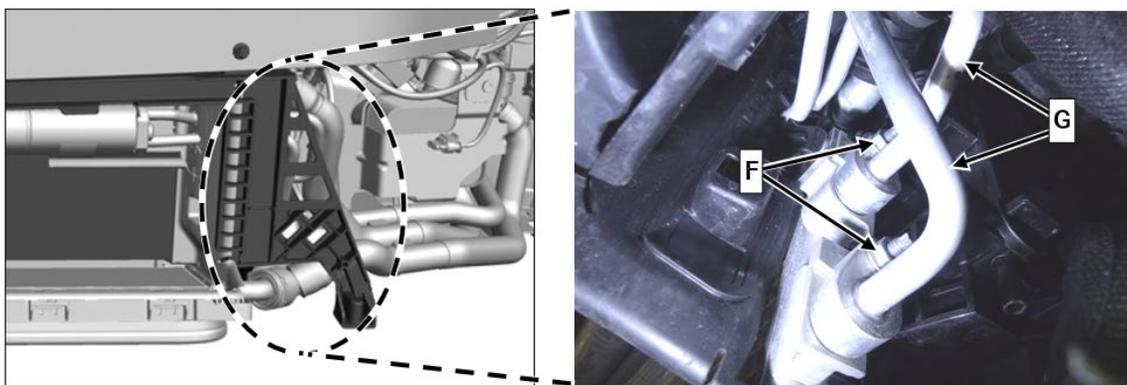

Figure 3
7. Unscrew nuts (F, Figure 3).
8. Remove refrigerant lines (G, Figure 3).